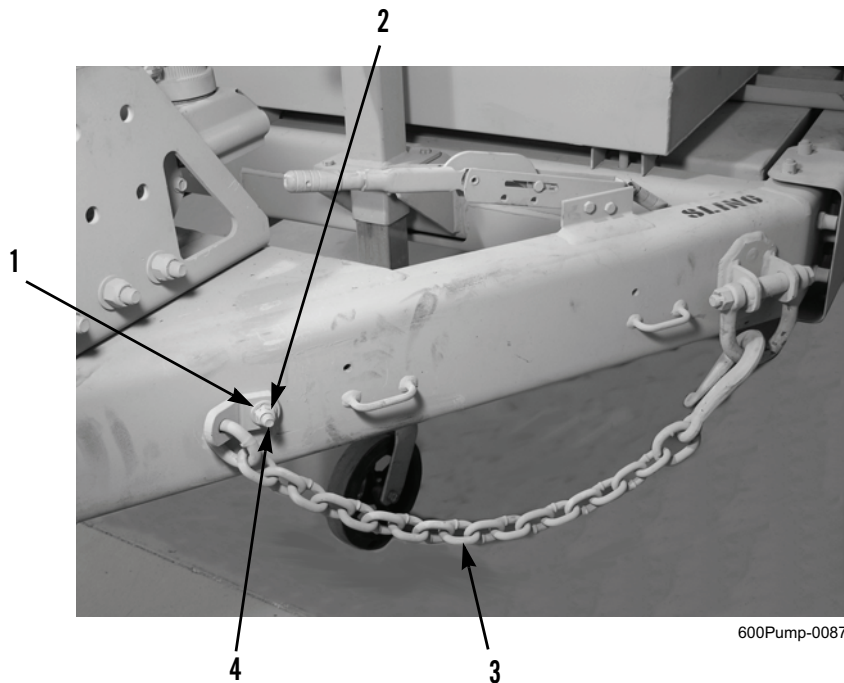

Figure 1. Safety Chain.
1. Remove locknut (Figure 1, Item 2), washer (Figure 1, Item 1), bolt (Figure 1, Item 4), and safety chain (Figure 1, Item 3) from trailer frame. Discard locknut.
2. Install safety chain (Figure 1, Item 3) on trailer frame with bolt (Figure 1, Item 4), washer (Figure 1, Item 1), and new locknut (Figure 1, Item 2).